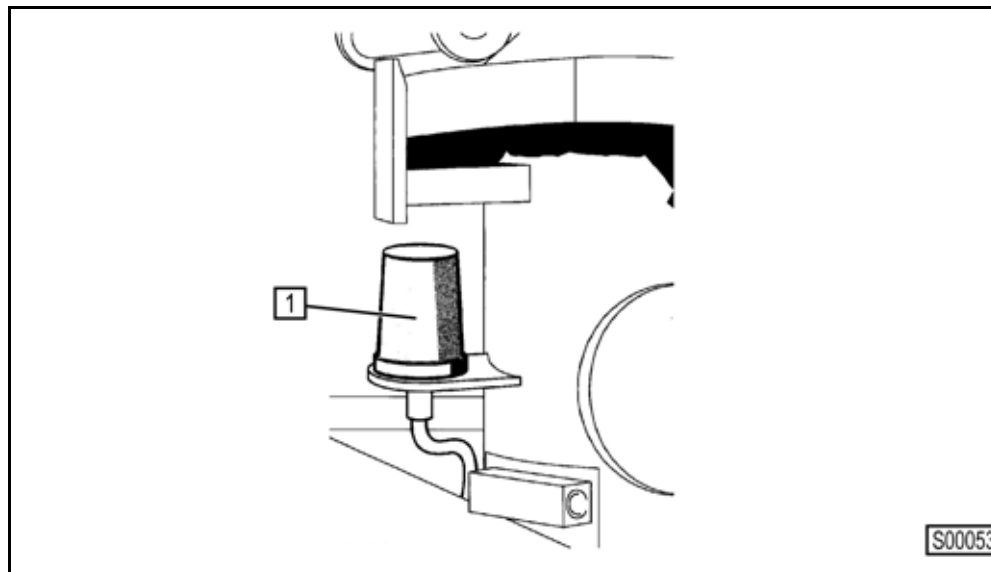

Fig. 411 Rotating beacon.
The EASy system features a yellow rotating beacon (1) (**Fig. 411**) on the machine.